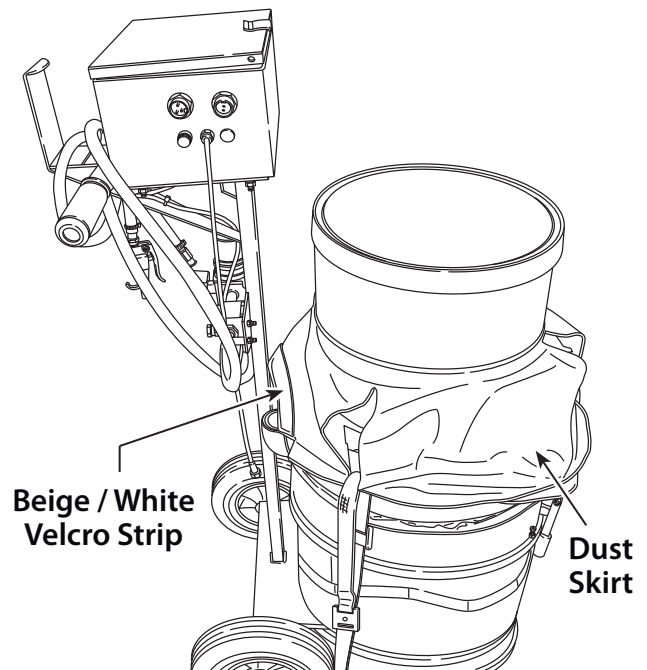

Figure 5
3. Place the Neoprene Skirt over DPF with the beige/white Velcro facing up and towards the control box. (Figure 5)